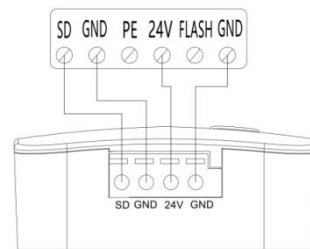

Fig.6
-SD & GND of Mini Rcontact RF need to be connected with SD and GND of opener. (Fig6)
-24V & GND of Mini Rcontact RF need to be connected with 24V and GND of opener. (Fig6)